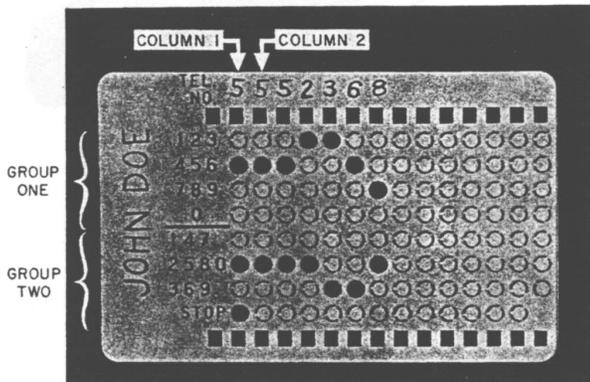

Fig. 5 — Card Coded for 7-Digit Telephone Number
(1) Prepare dialing card
(2) Write name and telephone number in spaces as shown in Fig. 5 and 6
(3) Convert prefix letters to numbers
Note: There are two groups of number 1 through 0 on the card (Fig. 5).
(4) In Fig. 5 the first digit of the telephone number is 5. In column 1, locate digit 5 in the first group of numbers and punch out the perforation with a pencil or ballpoint pen. In the same column, locate digit 5 in the second group of numbers and again punch out the perforation.